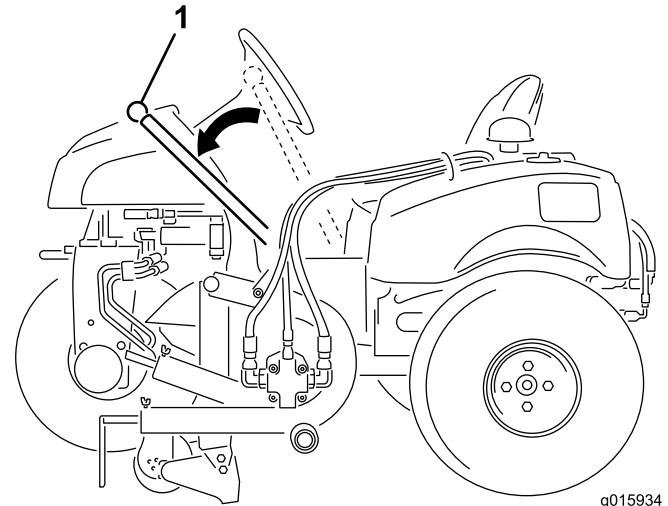

Figure 17
The handle is used to raise and lower the edger (Figure 17).
2. Press outward on the handle and lower the edger blade to the ground (Figure 17).
- Press outward on the handle and raise the edger blade to the transport position (Figure 17).